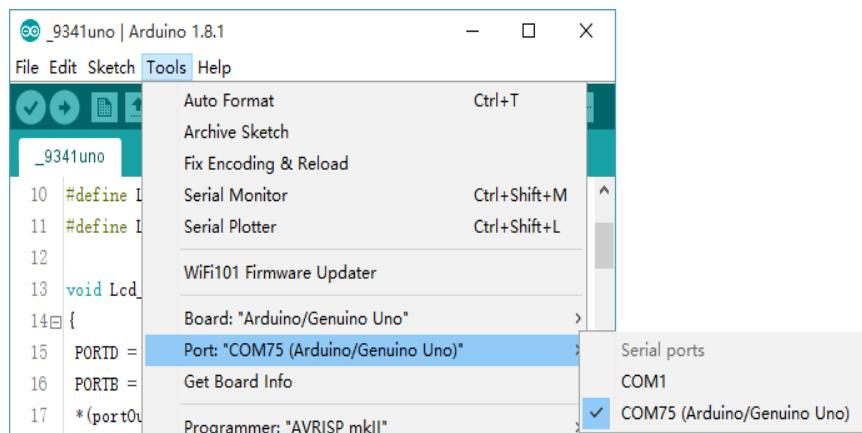

Figure 13
(3) Click "Tool" -- "Port" -- "COMxx(Arduino/Genuino Uno)" (See Figure 13)